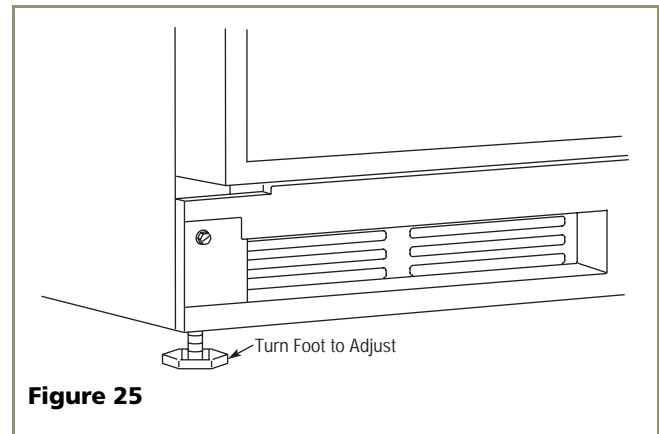

Figure 25
2. If the unit is not level, adjust the feet on the corners of the unit as necessary (see **Figure 25**).